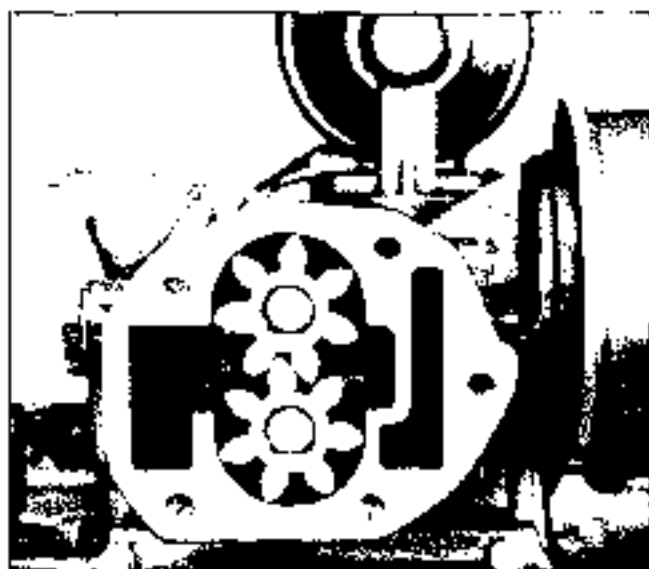

Fig. 6-37 Oil Pump Gears
2. Remove drive gear and driven gear (Fig. 6-37).